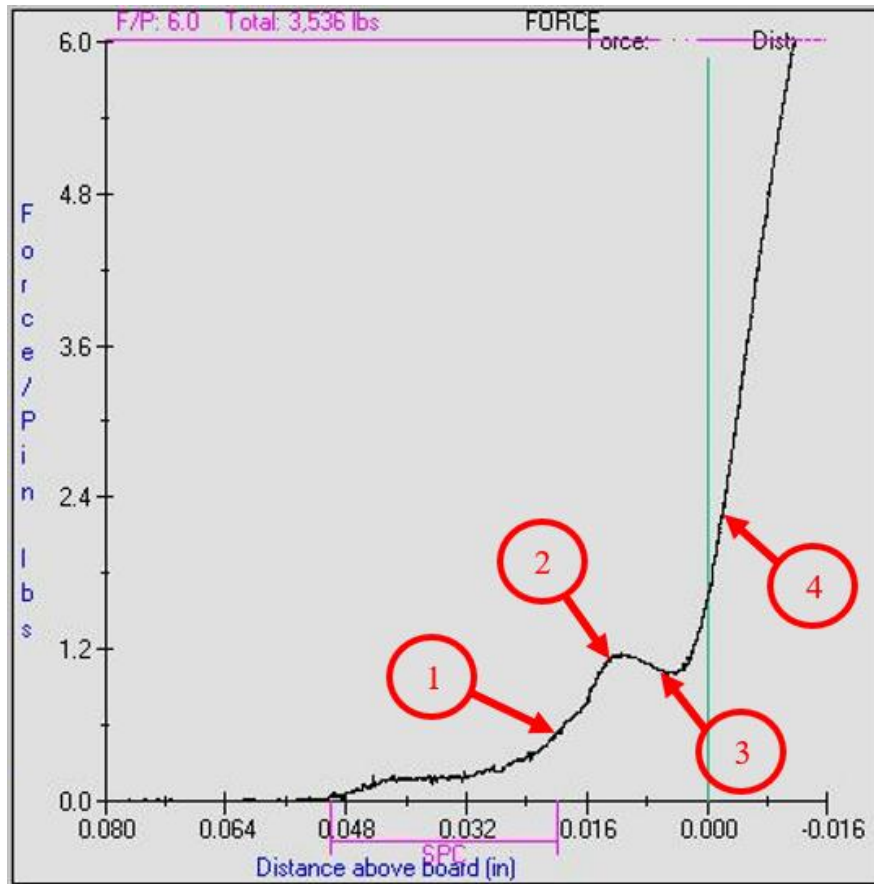

Figure A-7: Typical Force vs. Distance Curve of MEP-12T press for Paladin Plus connectors.
The MEP-12T press produces a Force vs. Distance curve during a pressing sequence similar to the one shown in Figure A-7. The main areas of the curve are: the initial compression of the Paladin compliant pin and compliance of the PCB hole (1), the point of maximum deflection of the Paladin compliant pin (2), the sliding of the compliant pin in the PCB hole (3), and the compression of the connector against the PCB (4). The following descriptions of these areas are for reference and intended as an aid in understanding the pressing characteristics of the Paladin connector utilizing the *ATCS\_FEMTO\_PLUS.prf* profile.
Part of the initial pressing sequence with the *ATCS\_FEMTO\_PLUS.prf* profile (Refer to Figure A-7) is to permit settling and alignment of all the compliant pins of the connector prior to a full pressing sequence. In this zone, the Paladin compliant pins and the PCB plated through holes begin to conform to each other and the Paladin compliant pins begin to compress. At this zone the slope of the force gradient line begins to increase as the Paladin compliant pins continue to compress.